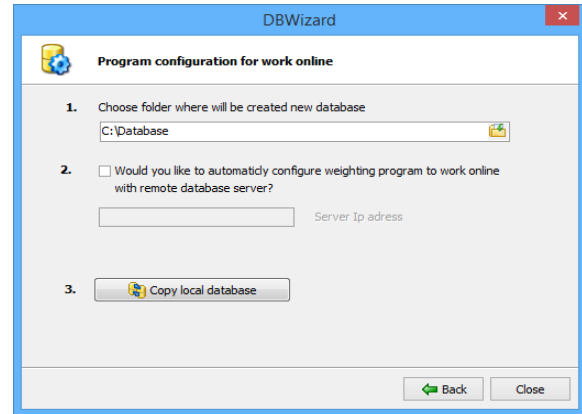

Fig. 21 Copying of an existing database
4. On the second tab of the program select the location (folder) in which to copy the existing database (Fig. 21). For the purposes of this demonstration, it will be “C:\Database”